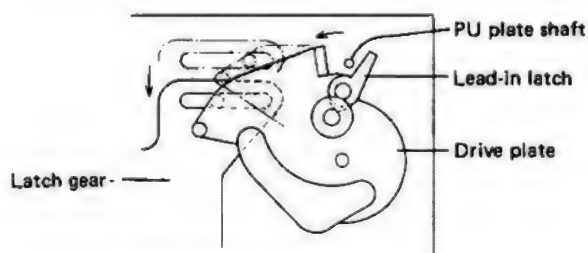

Fig. 5-12 Tonearm Mounting
12. The tonearm ass'y is mounted before mounting the slide base, and the PU plate shaft is mounted sandwiched between the drive plate and lead-in latch. (Slide the latch gear forward slightly and mount the plate with the lead-in latch open, returning the latch gear to its former position after completing the mounting). (See Fig. 5-12)